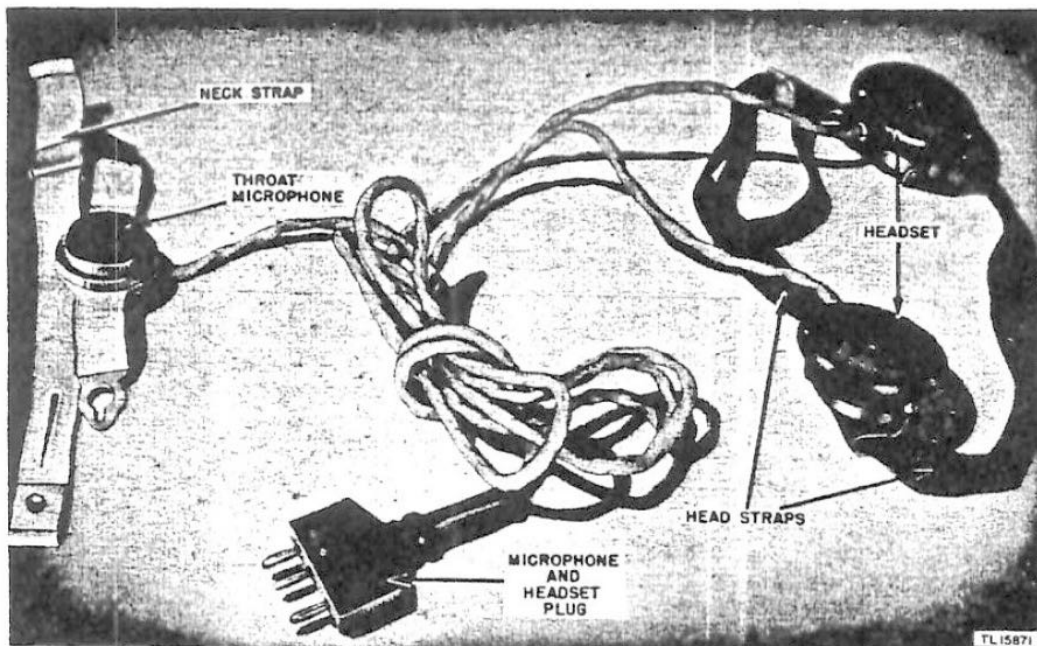
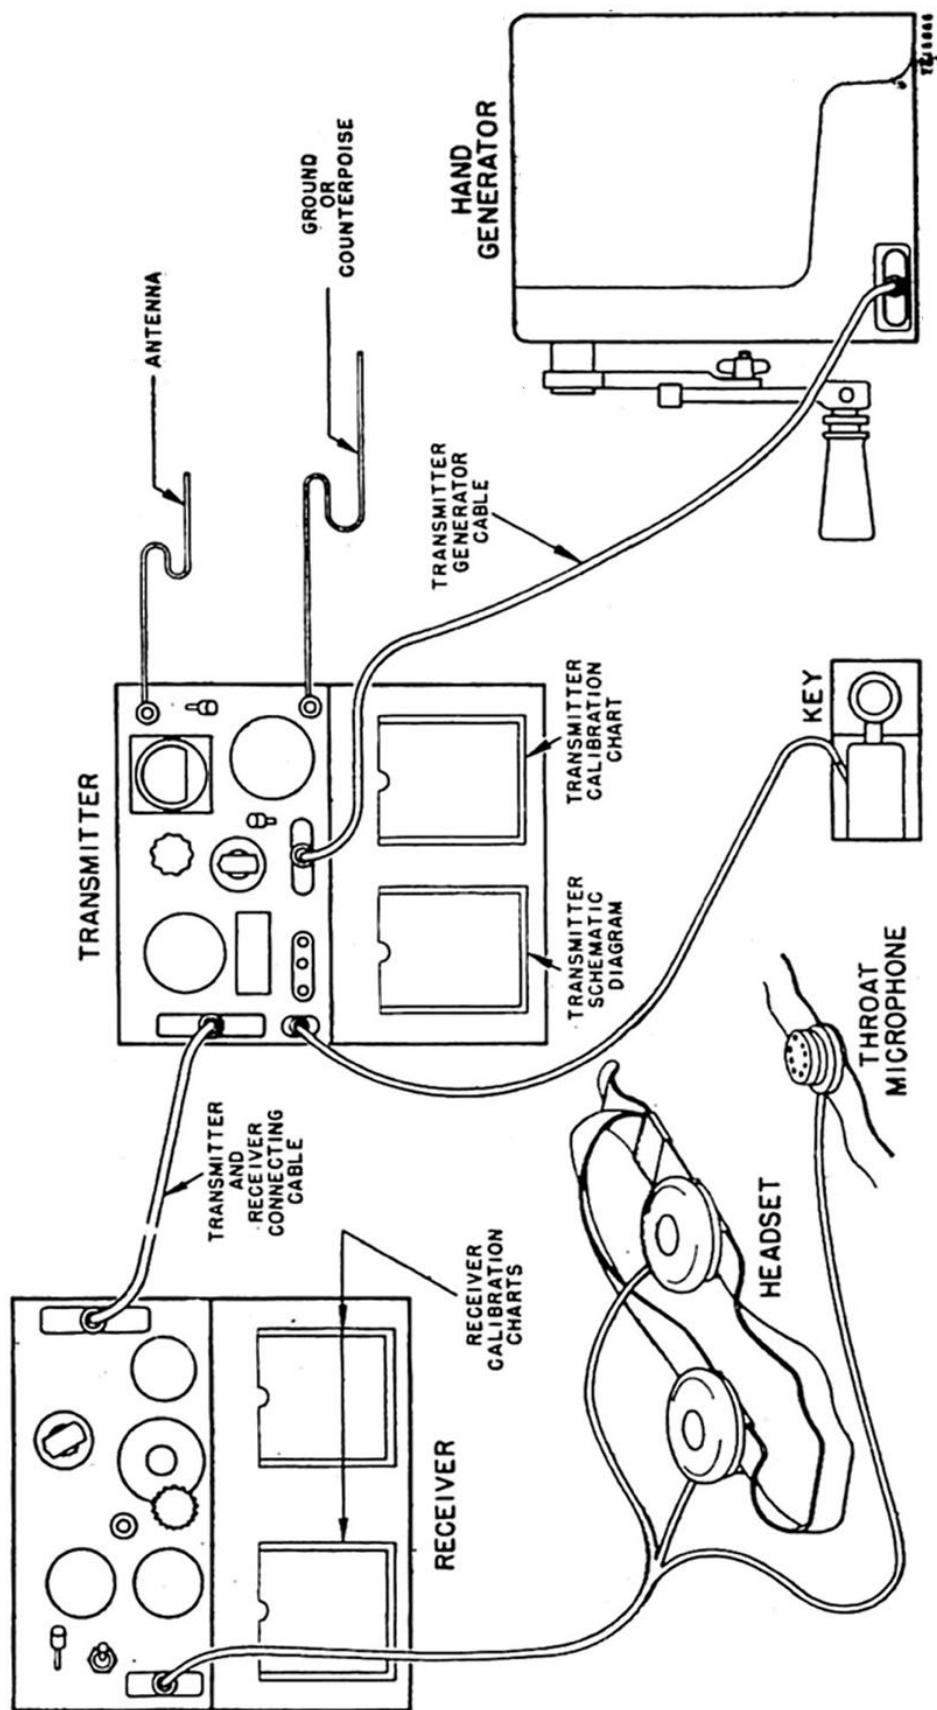
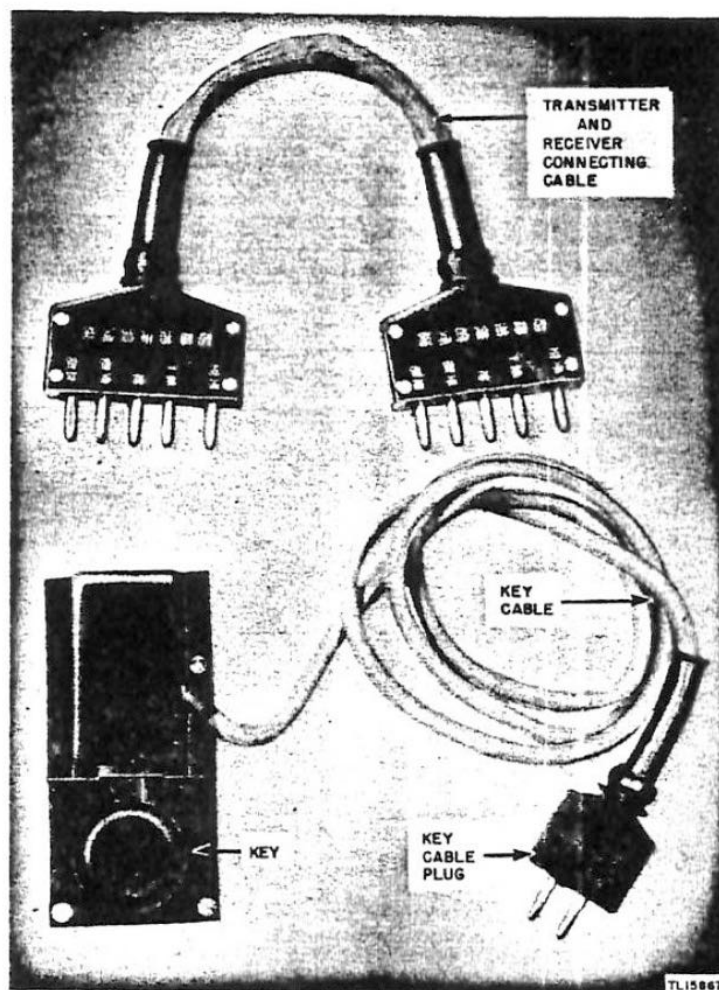
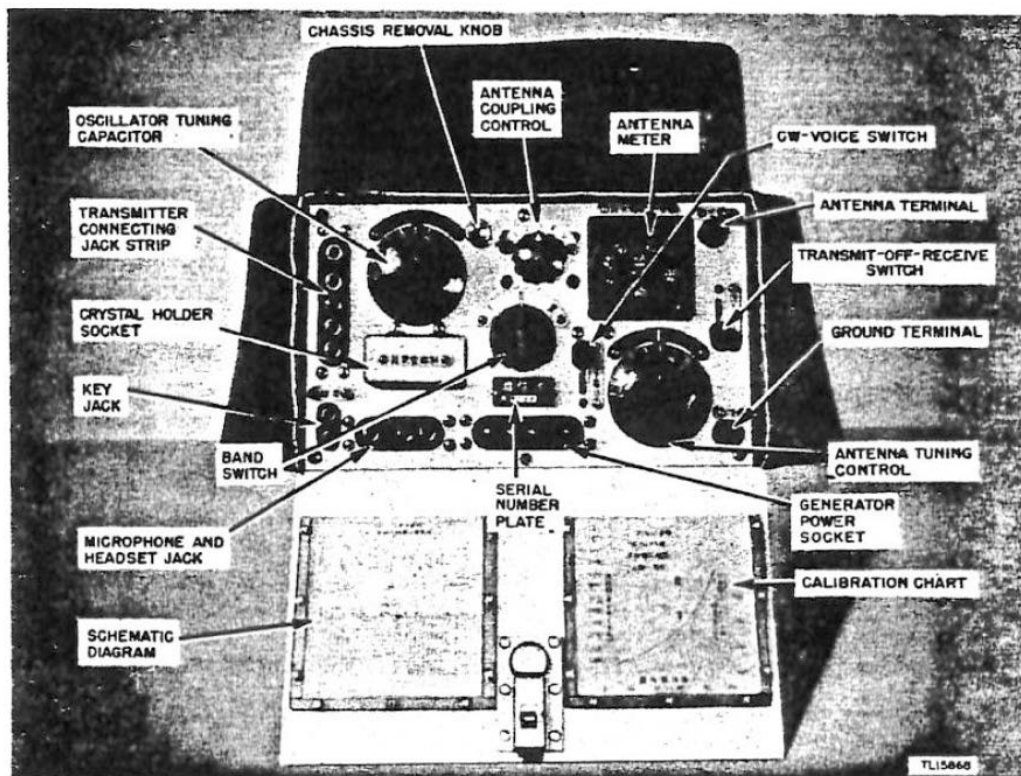

Figure 14. Headset, throat microphone, and plug.
Figure 15. Japanese Radio Set Model 94 Mark 5 Wireless Set, installation of the set.
Figure 16. Transmitter and receiver connecting cable, key and key cord with plug.
Figure 17. Mark 32 Type Transmitter, front view.
a. General. A view of the over-all installation of the set is shown in figure 15, with the relative positions of the component units indicated. The entire set is carried by two men when moving from one operating location to another. If American type batteries are used to power the receiver or the transmitter, it may be necessary to carry the batteries in a separate case such as a musette bag.
b. Antenna. (1) When the transmitter and receiver are used together, the same antenna system is used for both units. Plug the transmitter and receiver connecting cable (fig. 16) into the transmitter and receiver as shown in figure 15. The pin arrangement of the plugs on each end of the cable prevent incorrect insertion of the plugs into the jack strips on the transmitter and the receiver. Connect a long wire antenna from 53 to 88 feet in length to the 空 (antenna) post of the transmitter (fig. 17). Connect the ground or counterpoise wire to the 地 (ground) post of the transmitter (fig. 17).
c. Transmitter. After installation of the antenna system, plug the key plug (fig. 16) into the 鍵電 (key) jack and the 一號F型送受話器 (Mark 1 Type F microphone and headset plug) (fig. 14) into the 器話受送 (microphone and headset) jack. The microphone and headset may be plugged into the receiver 器話受送 (microphone and headset) jack if that position is more convenient. If crystal operation is to be used, pull open the small door on the transmitter front panel (fig. 17) marked 器更變御制 (crystal), and insert the crystal holder.
(2) To install the transmitter with the 機電發回手型號九一 (Mark 19 Type manually operated generator) as a power source, use the transmitter generator cable shown in figure 12. Plug one 紐續接機電發 (generator cable plug) into the transmitter power socket (fig. 17) and the other 紐續接機電發 (generator cable plug) into the transmitter power socket (fig. 17). The pin arrangement of the sockets prevent incorrect insertion of the plugs.
a. **Transmitter.** After the transmitter is installed, it is placed into operation as follows (figs. 17, 20, and 21):
- (1) Refer to the calibration chart on the inside of the transmitter front case cover and determine the band in which the desired frequency is located.
- (2) Set the 周波數帶轉換器 (band switch) to the band on which the desired frequency appears.
- (3) If crystal control of the transmitter is desired, open the door on the transmitter panel, marked 器更變御制 (crystal), and plug in the crystal of the required frequency.
- (4) If no crystal is available, set the 器電蓄調同振發 (oscillator tuning capacitor) to the calibration setting corresponding to the desired frequency. The numbers on the dial correspond